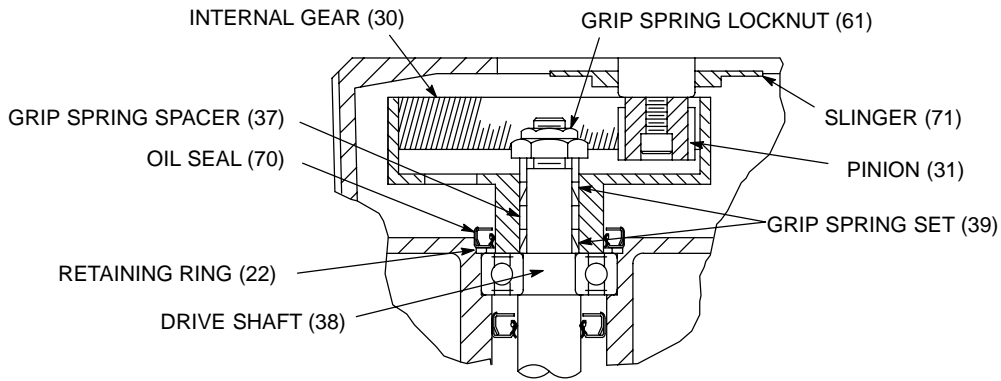

FIGURE 7 – GRIP SPRING ASSEMBLY
- l . Install the inner ring of the lower grip spring set (39) so that the thicker edge seats against the shaft shoulder.
- n . Hold the internal gear (30) in place in the gear chamber and pass the drive shaft through its bearings as far as it will go into the hub of the gear.
- o . With the gear on the end of the shaft, turn the housing motor end down and press the shoulder of the drive shaft against the inner race of the ball bearing (27).
- p . Turn the housing motor end up. Center the internal gear in the drive shaft and install the external ring of the lower grip spring set (39), grip spring spacer (37) and upper grip spring set (39). Both grip spring sets should be installed with the thicker edge of the external ring upward (see Figure 7).